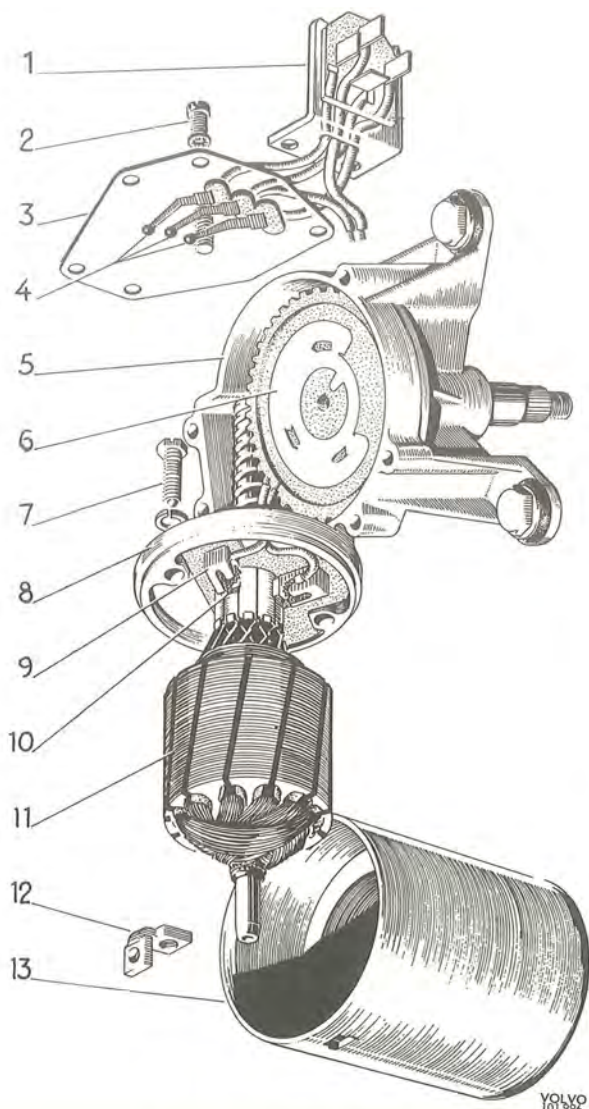

Fig. 3-75. Windshield wiper motor
Release the five screws (2, Fig. 3-75) and bend the cover (3) out of the way, then press out the plastic gear wheel. Remove the screws (7) and pull out the stator. Remove the screws for the negative brush and the washer on the ball bearing axial lock. Remove the washer for the axial lock. Move the brushes aside and carefully pull out the rotor. Take great care with the brushes since the ball bearing has a larger diameter than the collector.